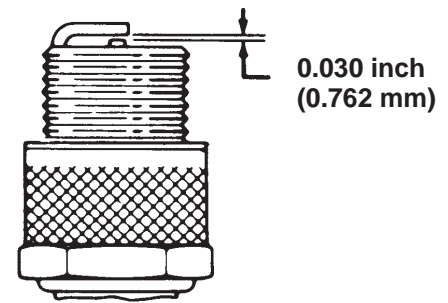

Figure 39
4. Set the air gap between the center and side of the electrodes at 0.030 inch (0.762 mm) (Fig. 39). Install the correctly gapped spark plug and tighten the plug to 14 ft.-lb. (20 N·m).